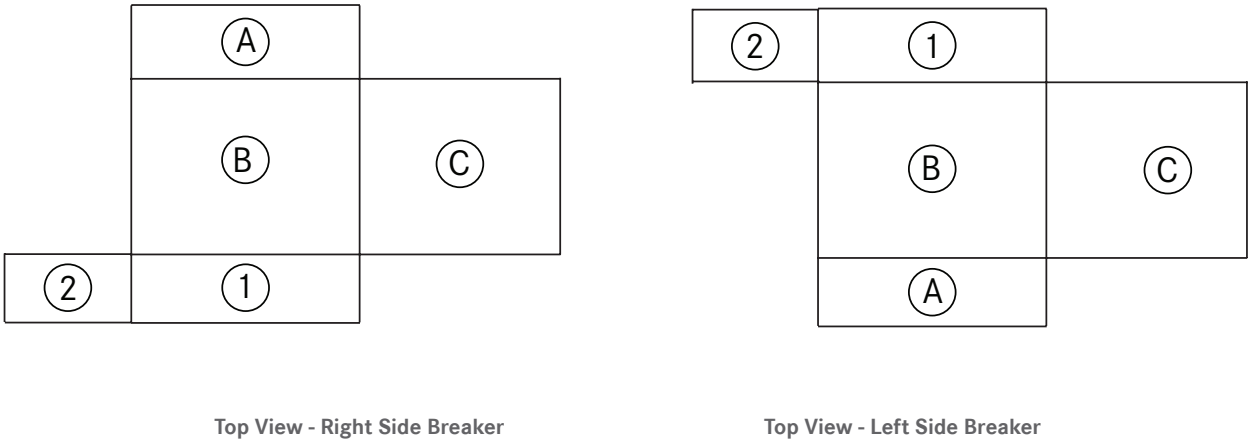

Figure 4: 360 Frame Enclosure Breaker Mounting Positions
- Reference Figure 4 for breaker mounting positions.